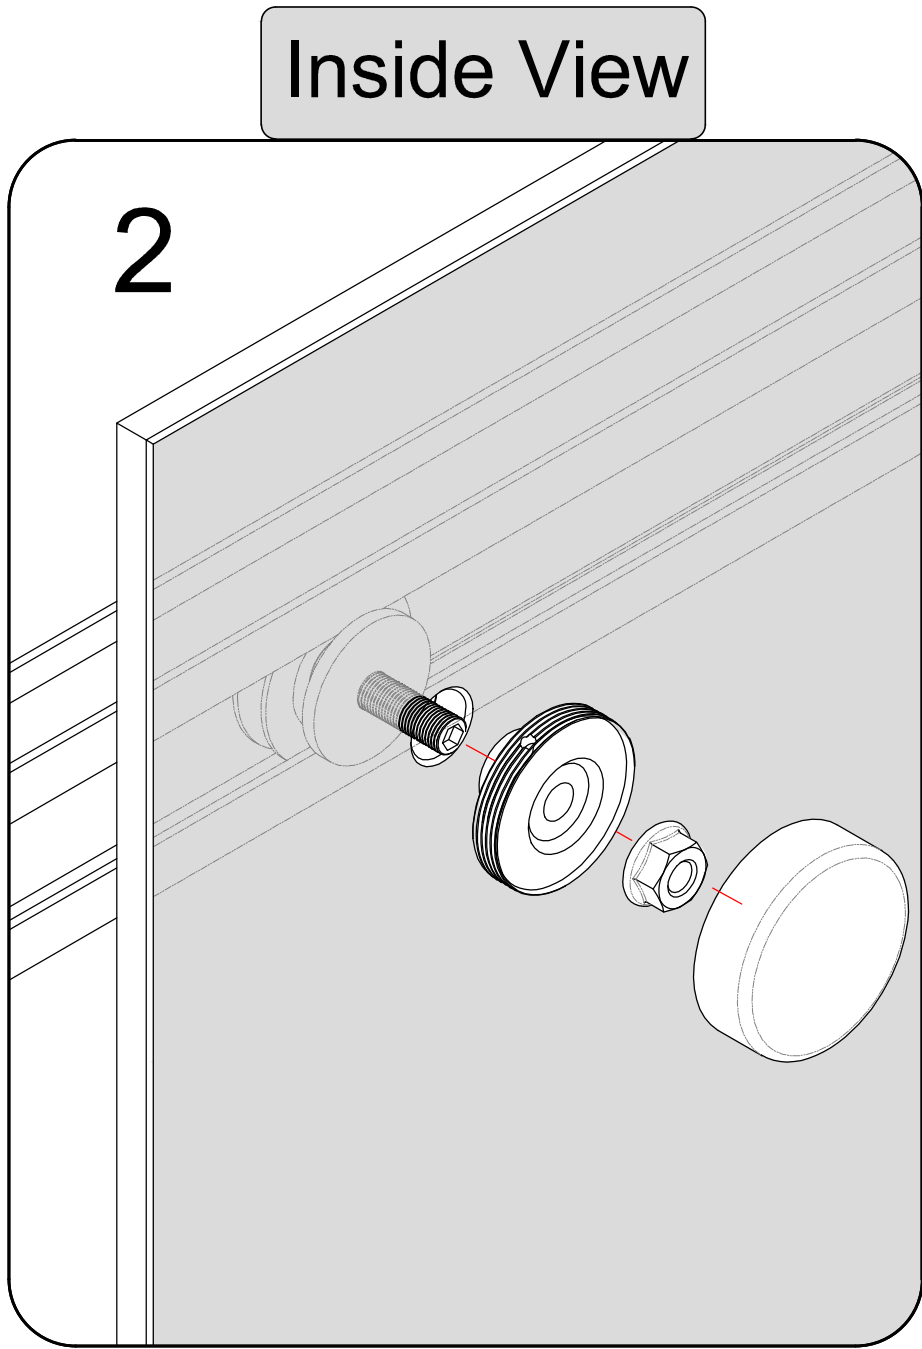

Fig.2
- 2.Remove the cap and screw from the **Rollers (K)** and attach the **Rollers (K)** to the **Inside Door Panel(L)**.Fig2